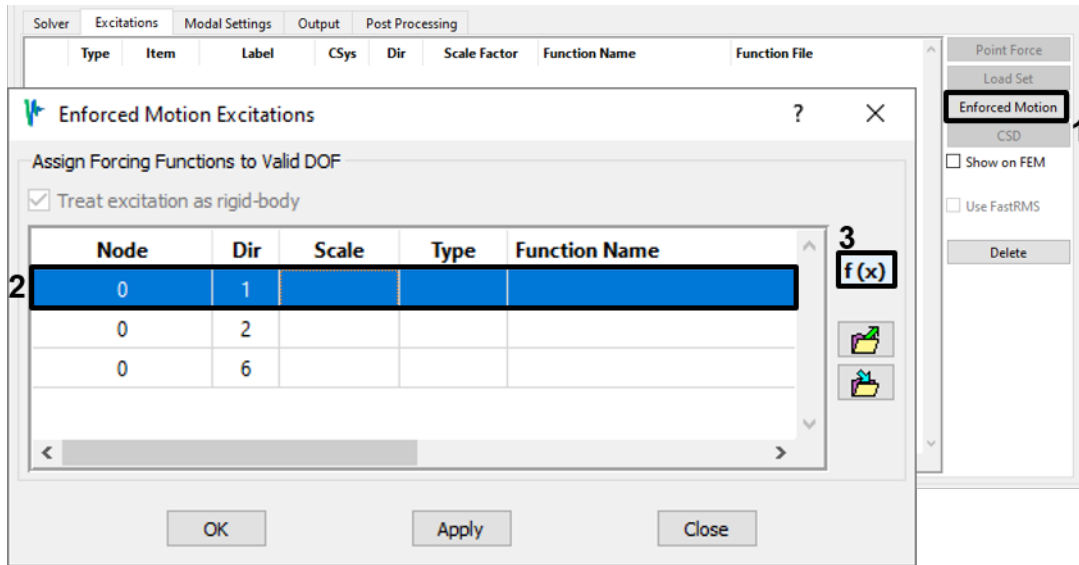

Figure 4-77. Assign an enforced motion function to direction 1.
- Response spectra are applied as enforced motions, so go to the *Excitations* tab and bring up the *Enforced Motion Excitations* dialog (Figure 4-77). Note that no motion out of the XY plane is offered; those degrees of freedom were removed from the model, so no modes have any effective mass in those directions. Select the X direction (direction 1) and click the **f(x)** button to bring up the Function Manager.